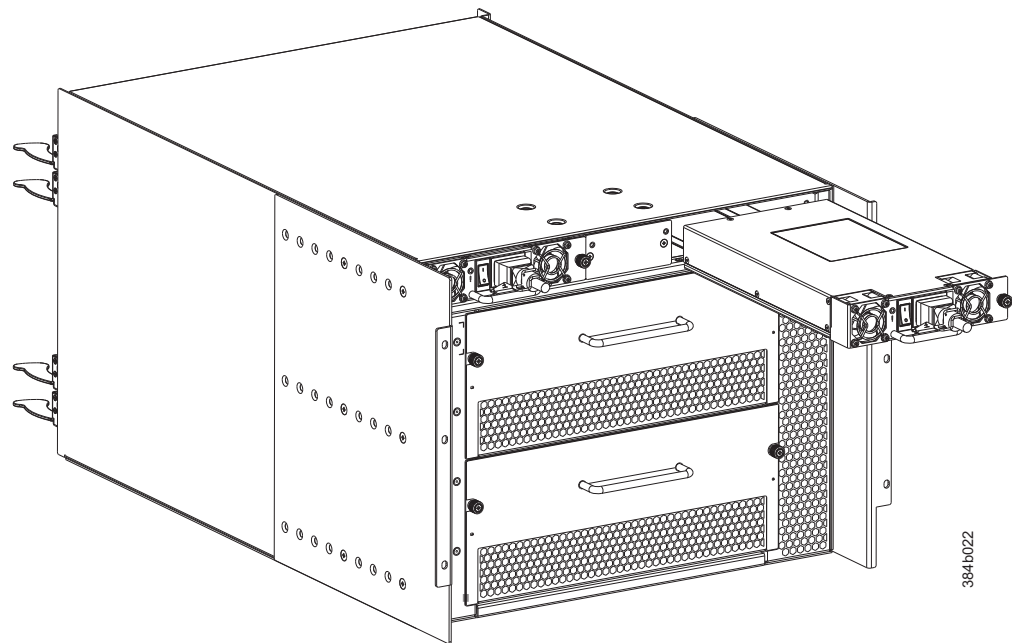

Figure 34. Removing and installing a power supply
5. Grasp the handle and pull, sliding the power supply from the chassis (see Figure 34). Support the power supply from beneath as you remove it.